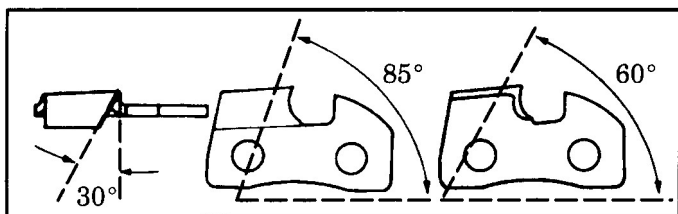

Figure 31
- f.) File chain to meet specifications shown in Figure 31.
Maintain the proper hook angle according to the manufacturer's specification for the chain you are using. Too much hook angle will increase the chance of kickback which can result in serious injury. Figures 31 & 33.